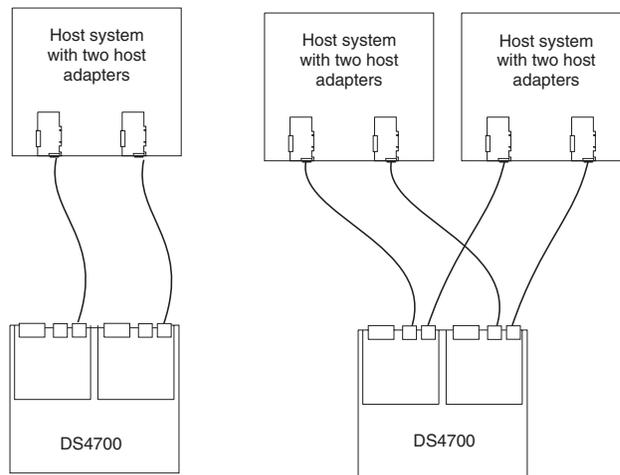

Figure 79. Examples of redundant host direct attached fibre channel configurations
- Redundant host and drive fibre channel loop configurations, as shown in Figure 79